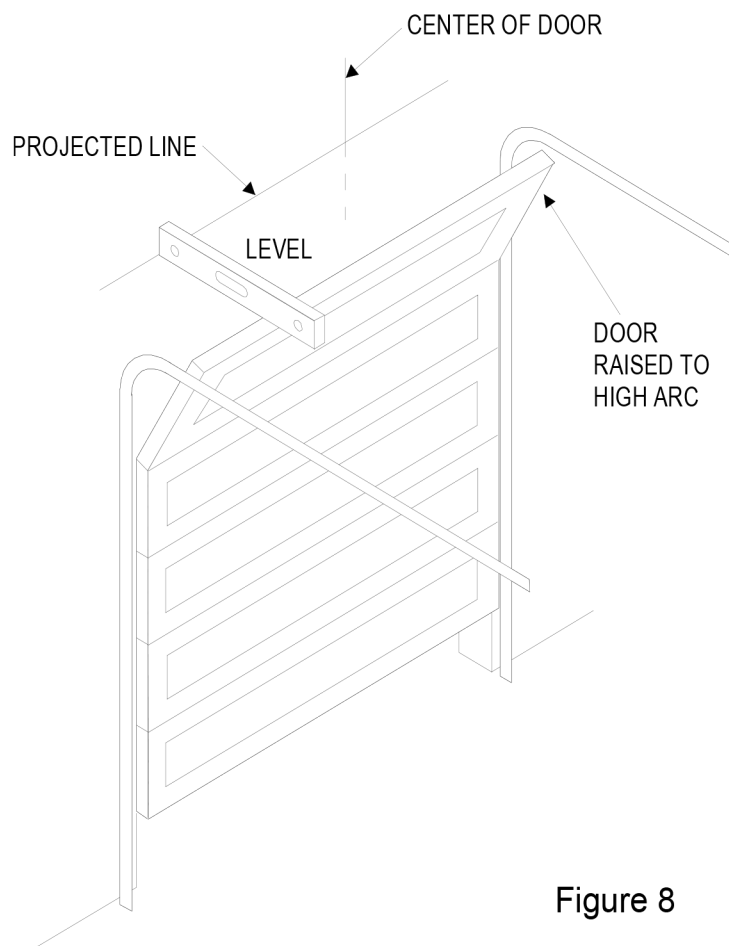

Figure 8
2. Slowly raise the garage door and observe the action of the top section. When the top section reaches the highest point (high arc), use a level and project a line from this point to the center of the door. See Figure 8.
3. Refer to Figure 8. Depress the limit nut retaining bracket away from the slots in the limit nuts. Turn the CLOSE limit nut on the shaft until it engages the CLOSE Limit Switch. The switch will sound an audible “click” when engaged. If there are auxiliary present, the limit switch will be the second “click”. Release the retaining bracket and be sure that it engages in slots of both limit nuts.